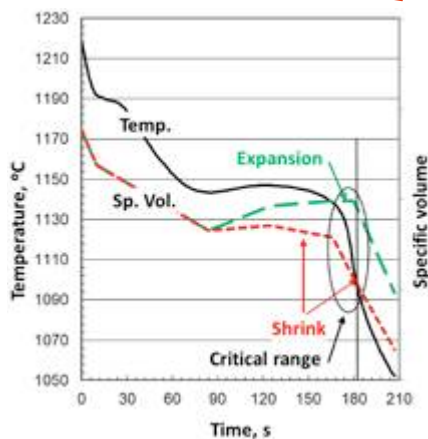

Figure 3. Temperature and specific volume evolution during the solidification of cast iron [3].
During primary solidification of hypoeutectic iron, in the dendrite-dominated solidification (*Figure 2*), the liquid/austenite mixture continues to shrink as the specific volume decreases (*Figure 3*). As long as the permeability of the mushy dendritic region is sufficiently high, the shrinkage is compensated by flow from the risers. Graphite expansion begins once the maximum undercooling, TE_low, is reached and may (green line), or may not (red line), continue to the end of solidification. The final result will be expansion
if enough graphite expansion occurs, or shrinkage in the case of insufficient expansion, as shown in the critical range in Figure 3. The figure also shows a drop in expansion (green line) at the end of solidification, typically produced by decreased graphite growth in the last regions to solidify because of segregation of carbide-promoting elements. For SG iron, the mushy zone is much larger and its permeability much smaller than that of lamellar graphite (LG) iron. This restricts feeding from the riser and decreases the cooling rate. In principle, both LG and SG irons of near-eutectic or eutectic composition should exhibit expansion during solidification and therefore should not be prone to forming either cavity or porosity shrinkage. While this is true for gray iron, the ordinary manufacturing of SG iron is susceptible to shrinkage porosity because of limited graphite growth at the end of solidification, which is then dominated by austenite shrinkage. This induces specific volume decrease and produces uncompensated shrinkage in the last region to solidify, and thus porosity.